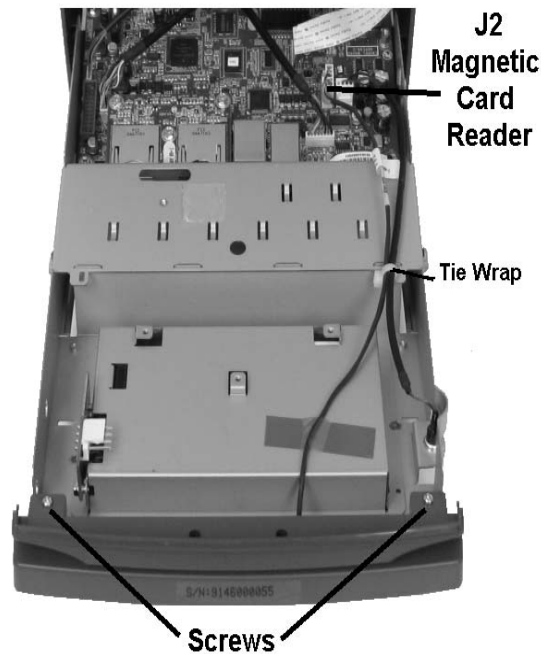

Figure 2-7: Removing the Magnetic Card Reader Assembly
2. Refer to Figure 2-7, below. Remove the pair of screws that fasten the Mag Card Bracket to the chassis.